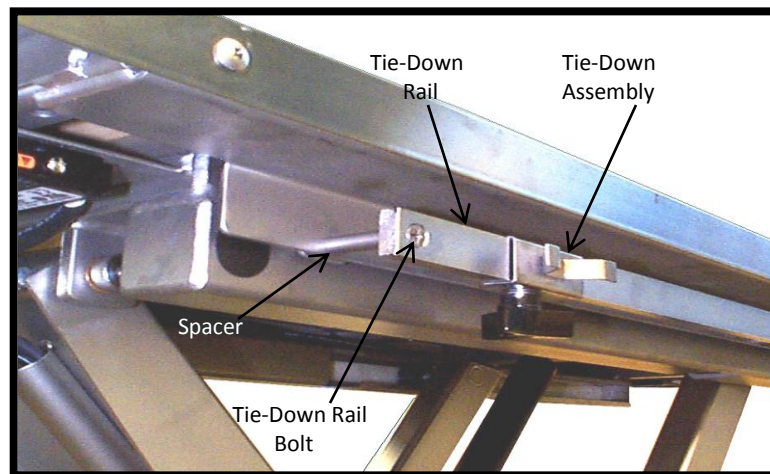

Figure 23: Tie-Down and Tie-Down Rail
1. With a Phillips screwdriver, remove the tie-down rail bolt and spacer nearest the tie-down to be replaced (Figure 23).
2. With a Phillips screwdriver, remove the four tie-down rail bolts and spacers closest to the ends of the gurney (both sides of the gurney) (Figures 23 and 24). **Note:** The center tie-down rail bolts do not have to be removed.
4. Secure the gurney top to the unit with the four sets of spacers and bolts (Figure 23).